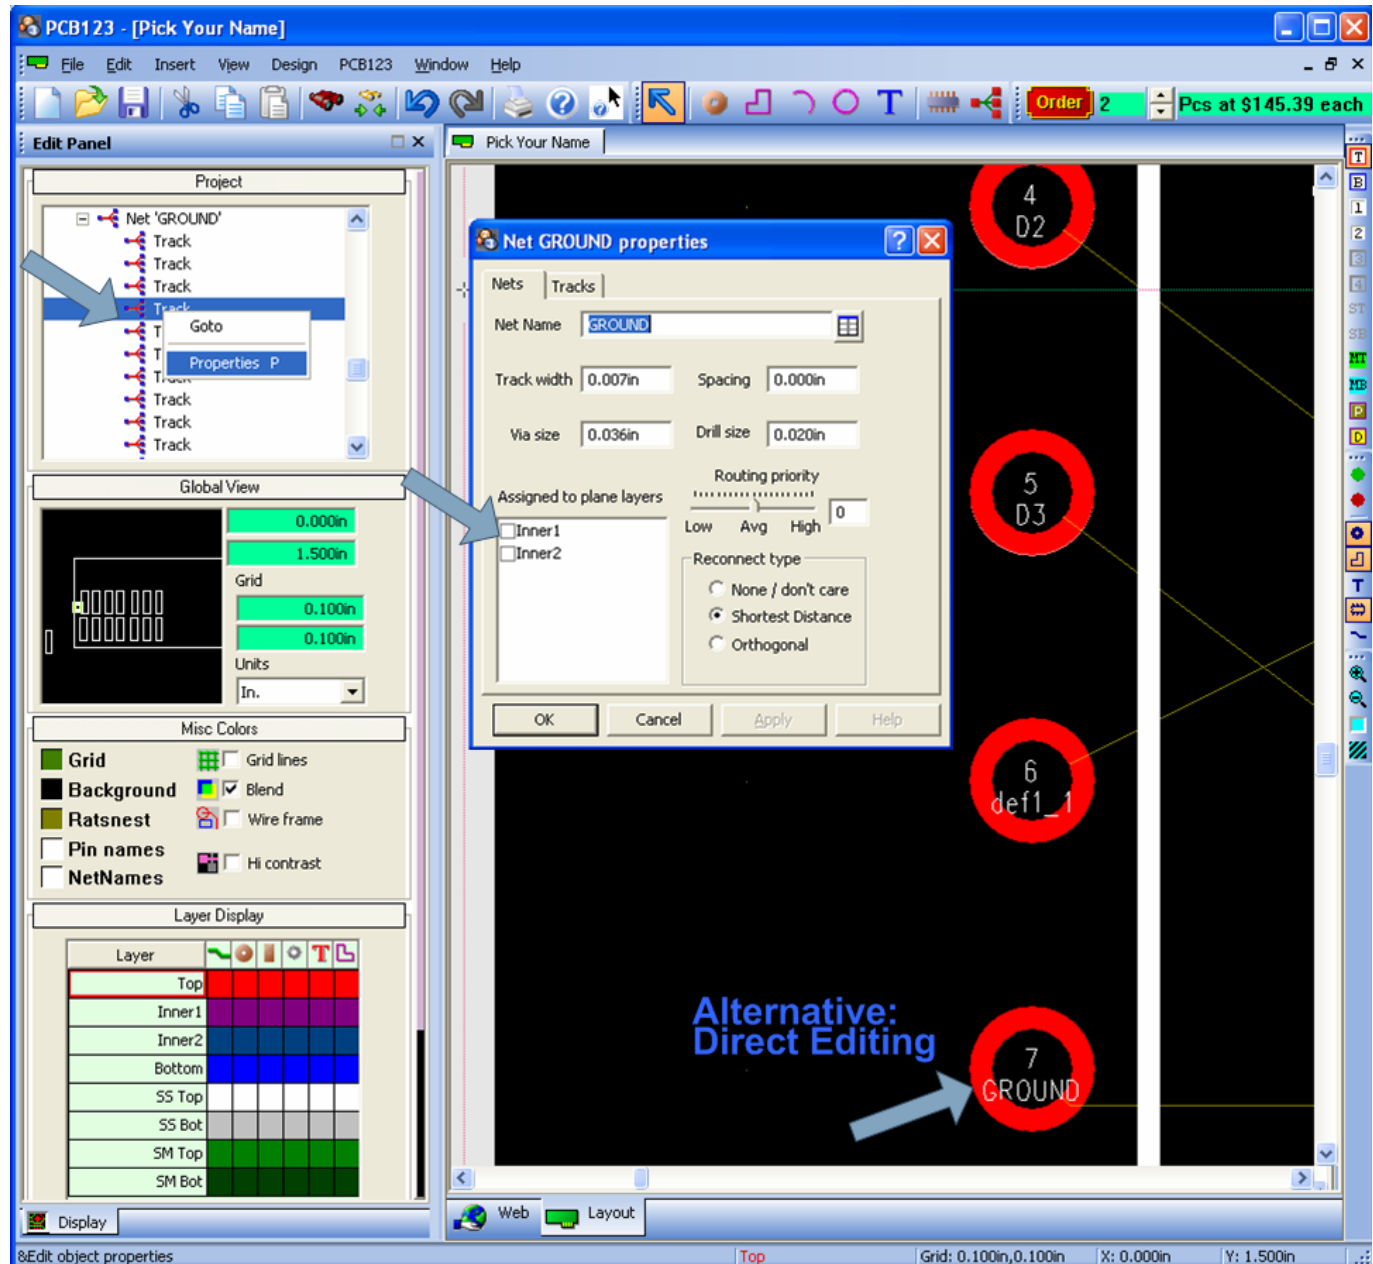

Figure 9: Edit Connection Properties
Using the Projects Panel (Figure 9)
Alternative: Direct Editing of Connections (*Figure 9*)
2. You should see the same **Net Ground** properties window as in Figure 9.